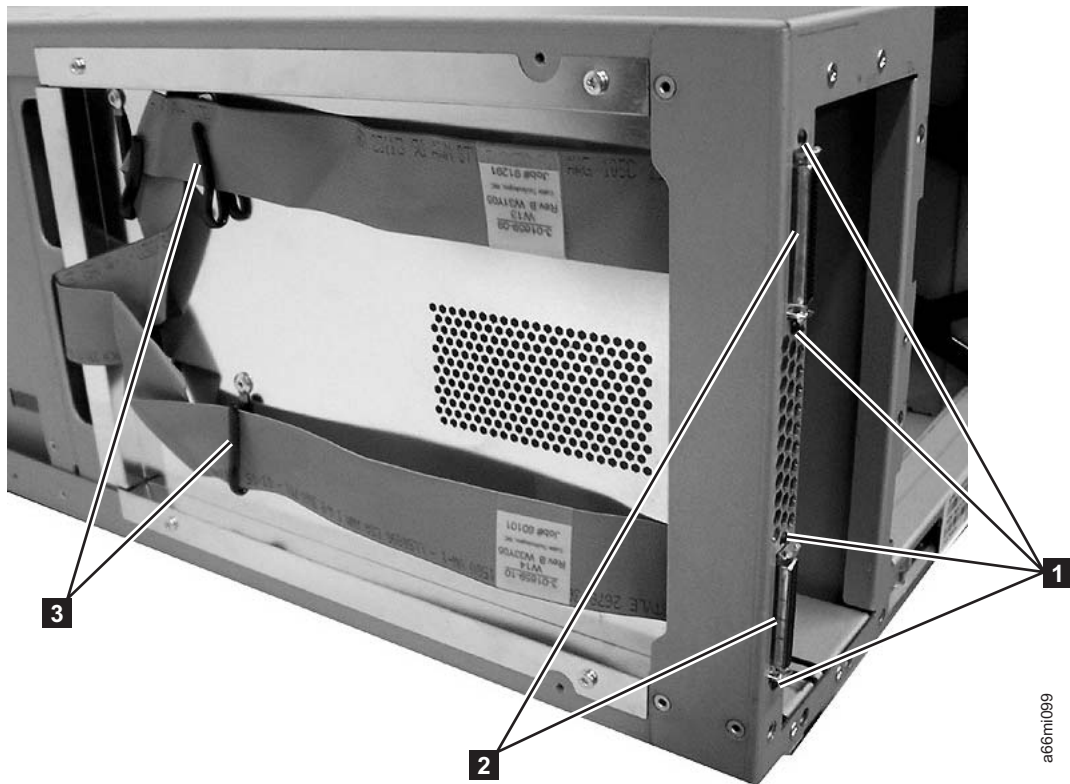

Figure 8-117. D-shell connectors and flat cables, side cover removed
- c. Remove the terminator(s) from the 2 D-shell connectors (**2** in Figure 8-117 on page 8-109) on the back of the control module, if necessary.
- d. Remove the 4 T6 Torx screws (**1** in Figure 8-117) holding the 2 D-shell connectors (**2** in Figure 8-117) on the back of the control module. Carefully remove the 2 flat cables (**3** in Figure 8-117) and D-shell connectors from under the cable retainers on the side of the enclosure.